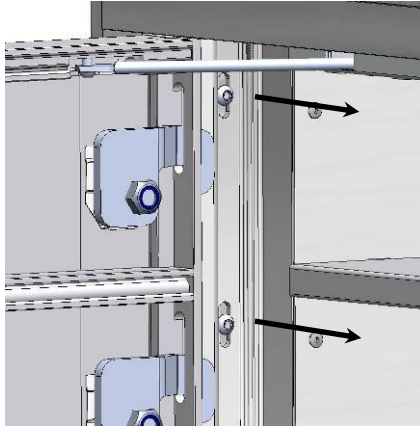

Figure 5 – Remove Left and Right Side Mounting Screws
Step 2 - Remove mounting screws along both sides of the versatile™ unit. (See Figure 5)